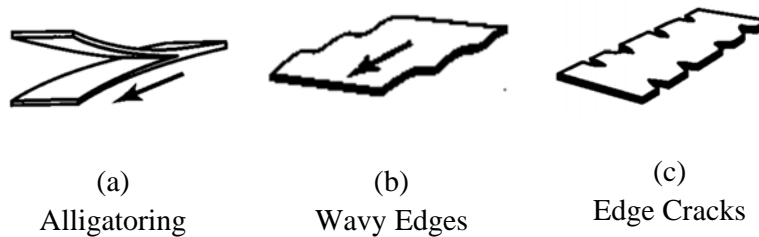

Figure Q3(D): Defects in Rolling process
D. Explain the main reason of occurring the defects shown in Figure Q3(D) that occurred during the rolling process and suggest a solution.